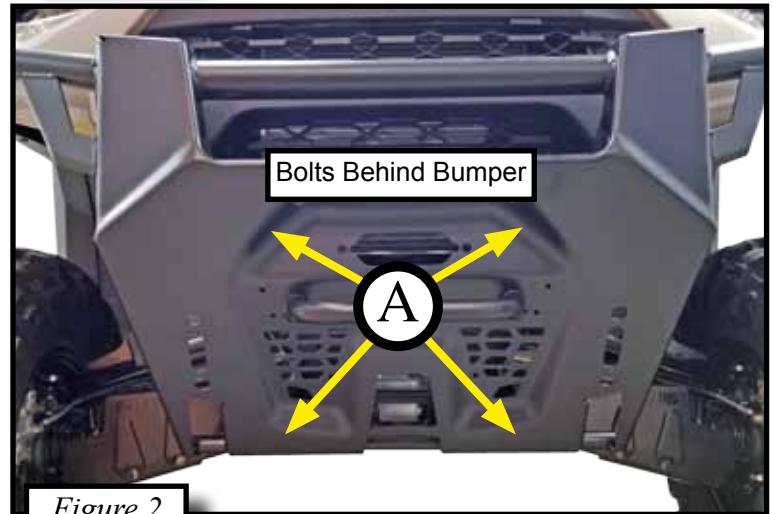

Figure 2
1. Uninstall the front bumper by removing bolts (A) found behind the bumper shown in Figures 2 & 3.
7. Bolt the roller fairlead to the front of the bumper in the factory location. Line up the fairlead holes to fairlead bracket on the winch mount. Using the flange bolts (3) and flange nuts (4) sandwich the roller, bumper, and winch mount together. Tighten down the fairlead bolts. Shown in Figures 2, 8 & 9.